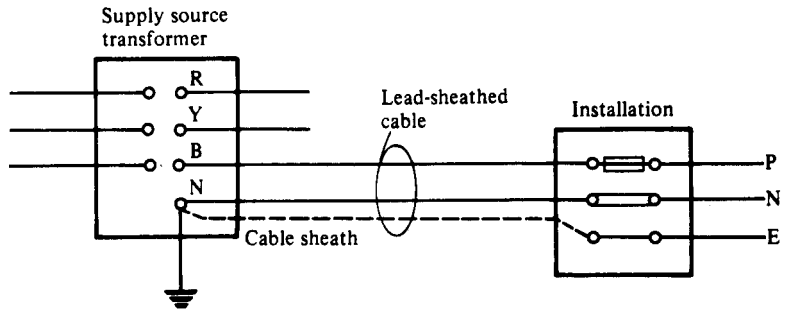

Fig. 16.8 TN-S system
- 2 A TN-S system has the supply source directly connected to earth, the installation metalwork connected to the earthed neutral of the supply source via the metal sheath of the supply cable, and the neutral and protective conductors throughout the whole system performing separate functions (Fig. 16.8).